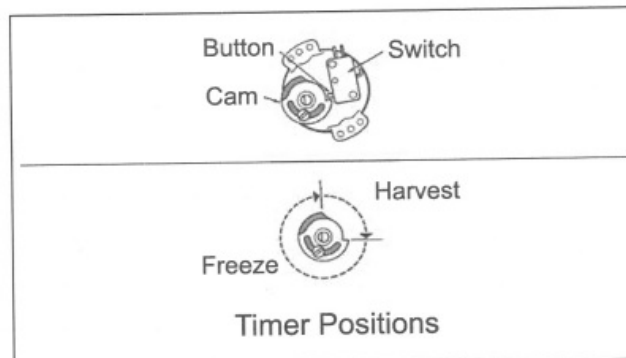

Figure 2-13. Rotate Timer Cam to Harvest Position
4. Locate the cycle timer and rotate the shaft clockwise until the cam is in the harvest cycle position (switch button out). (See Figure 2-13)